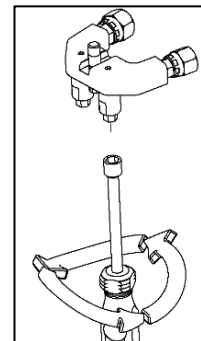

Figure 6: Closing Manual Valves
2. **NOTE!** The material delivery hoses are color coded Red and Blue. The Red corresponds to the Isocyanate (A) and the Blue to the Polyol (R). To avoid connection errors, the (A) and (B) hoses have connections with different sizes to avoid incorrect connections.
- 4.3. _____ Ensure the **Manual Valves** are **CLOSED** by turning them to the full clockwise position using supplied 5/16" nut driver. (see Figure 6).